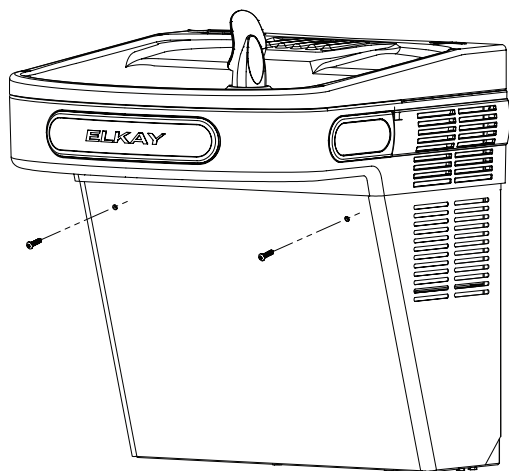

Fig. 2
1. Remove the two security screws (size T25) from the front panel. (see Fig. 2)
2. Refer Fig. 2 to 6, Pg. 9 for wrapper removing instructions.